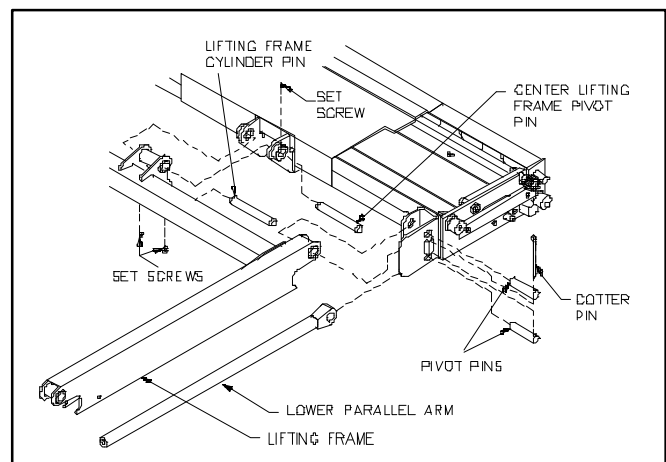

FIGURE 4-7: LIFTING FRAME REMOVAL
- f. Refer to **Figure 4-7**. Remove the cotter pin retaining the pivot pins to the carriage.